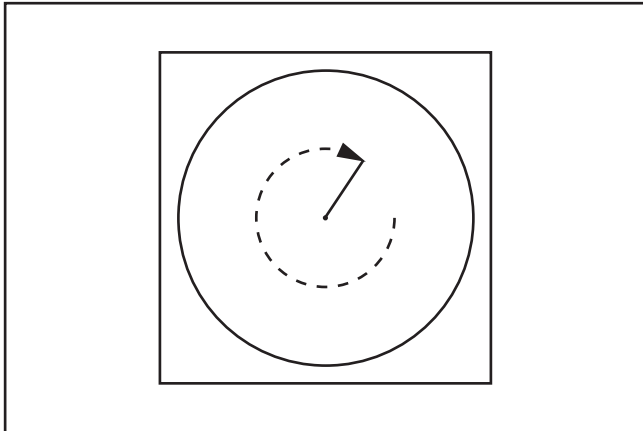

Figure 44. Using string to draw inner circumference circle.
5. Cut length of **RadiusH** off of string to repeat **Step 4** for inner circumference (see **Figure 44**).